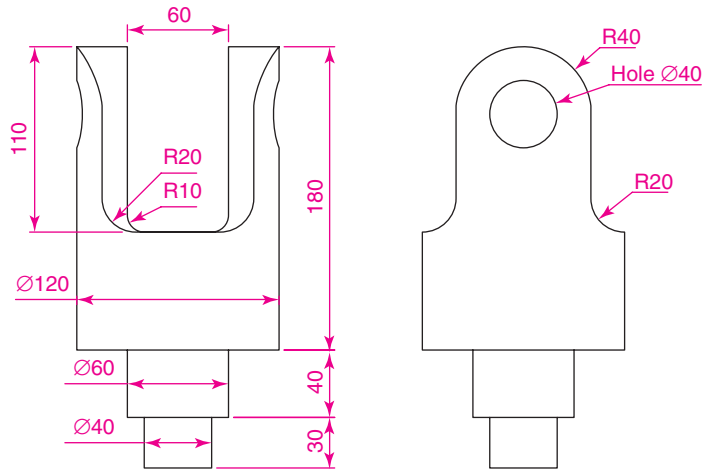

Fig. 7.3 Front and end views of the solid
2. Draw what is seen when the solid is viewed from the left-hand end of the front view. This produces an **end view**. Fig. 7.3 shows the end view alongside the front view.